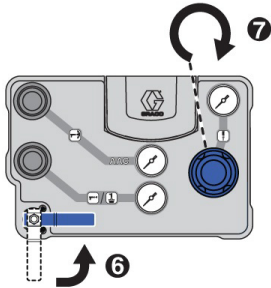

FIG. 34
7. Turn the main air supply ball valve to the open position. See **Figure 34**.